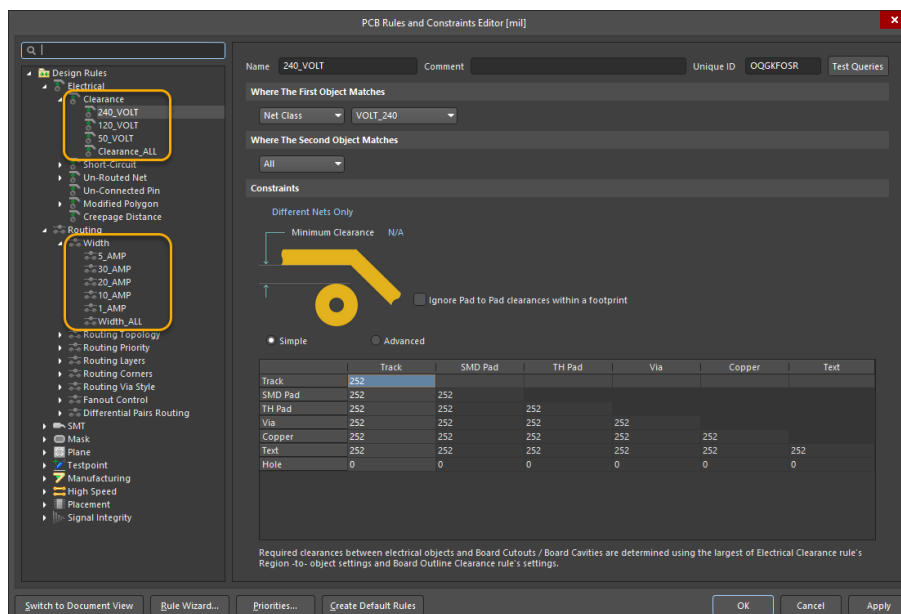

Figure 12. Design Rules
50. Open the *PCB Rules and Constraints Editor* by accessing the command **Design » Rules**. See Figure 12.